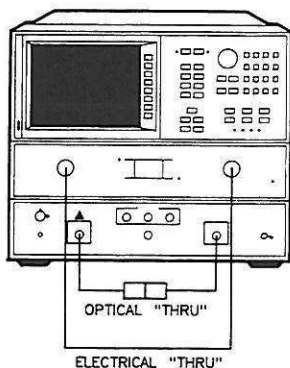

Figure 10. O/E Response Measurement Calibration Connections
4. Make the thru connections on the analyzer, as shown in Figure 10 before performing a measurement calibration.